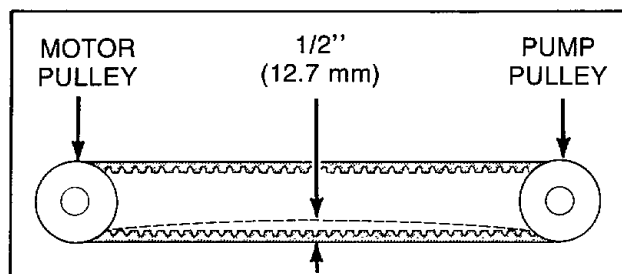

Figure 38
- Shift front of pump mounting bracket to the right or left to obtain proper belt tension. Proper tension is when belt can be deflected approximately 1/2 inch (12.7 mm) from its normal position by applying moderate pressure (1-1/2 pounds - .675 kg.) to a point midway between pulleys, *Figure 38*.